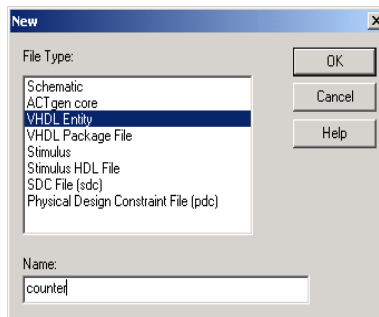

Figure 3-7. New File Dialog Box
- From the **File** menu, click **New**. This opens the **New** dialog box, as shown in Figure 3-7.